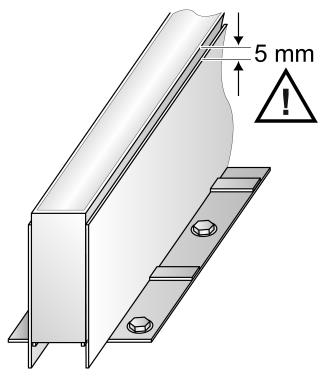

Figure 2: Installed luminaire
- i** The installed luminaire exceeds the upper edge of the frame by 5 mm (Figure 2). The upper edge of the floor after finishing must therefore also exceed the frame by 5 mm.
- Place the connecting cable (2) carefully in the groove of supporting strip (8).
- Insert the floor lamp (4) straight into the mounting frame.
- Press the luminaire down until it comes to rest on the supporting strip (8).